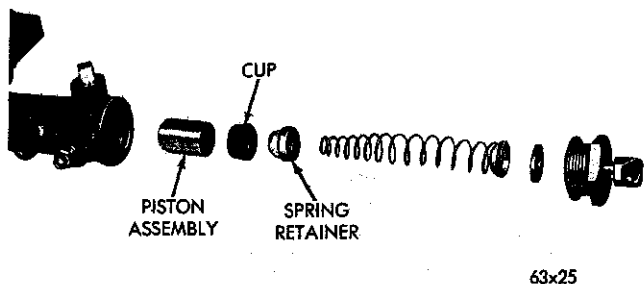

Fig. 43—Slave Cylinder (Disassembled)
(6) Using a $1\frac{3}{16}$ " socket unscrew the end cap from the front end of the slave cylinder housing. Remove and discard the copper washer that serves as a seal between the end cap nut and the slave cylinder housing. Remove and discard the rubber washer inside the end cap. This washer serves as a seat for the residual check valve. Remove the piston return spring and residual check valve from the slave cylinder bore and discard the check valve (Fig. 43).